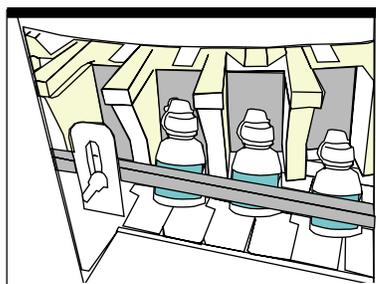

Figure 1-3. Correct Orientation, Exiting Feeder
7	Figure 1-3. Correct Orientation, Exiting Feeder
Step 3—The FS-30-RD Feeder Delivers Your Product. After the product has been properly qualified, it is guided to the drop zone where the product is dropped vertically, with the assistance of gravity, and thereby placed in the proper orientation (see Figure 1-3). Finally, the product moves out of the FS-30-RD feeder in a rapidly moving and randomly spaced stream by means of a discharge inline system.